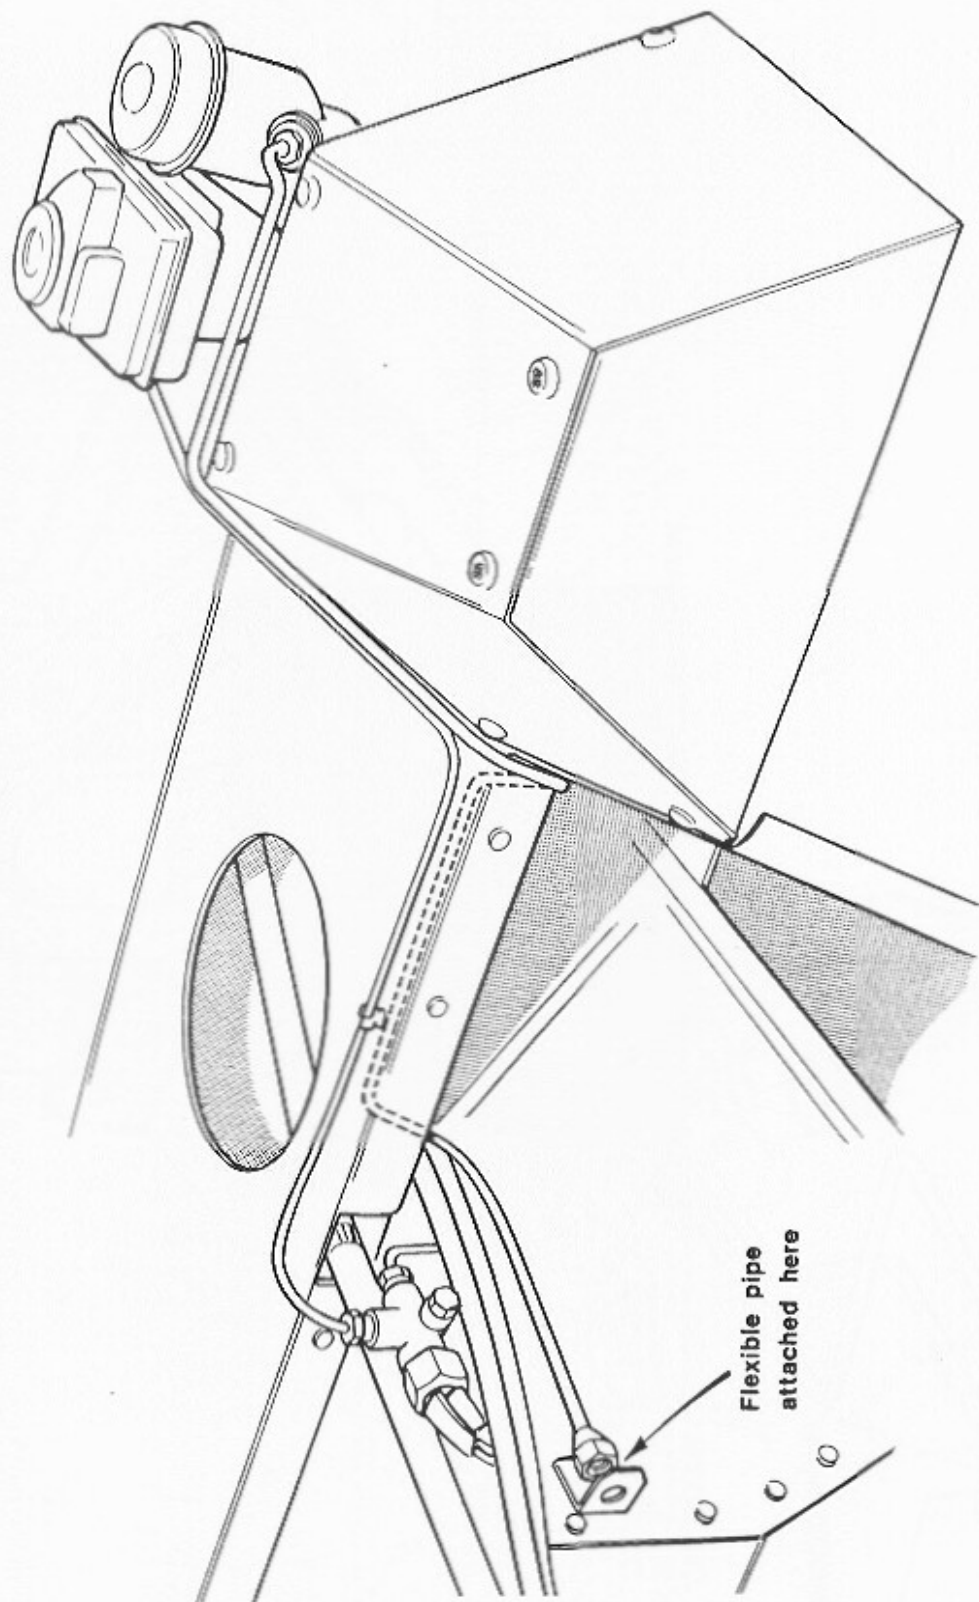

Figure 10.5 LHD Hydraulic Clutch
5.3 To adjust the clutch, pull the rubber cover back over the adjusting rod and screw the rod in or out accordingly so the 'bite' point is correct. (see figure 10.5)